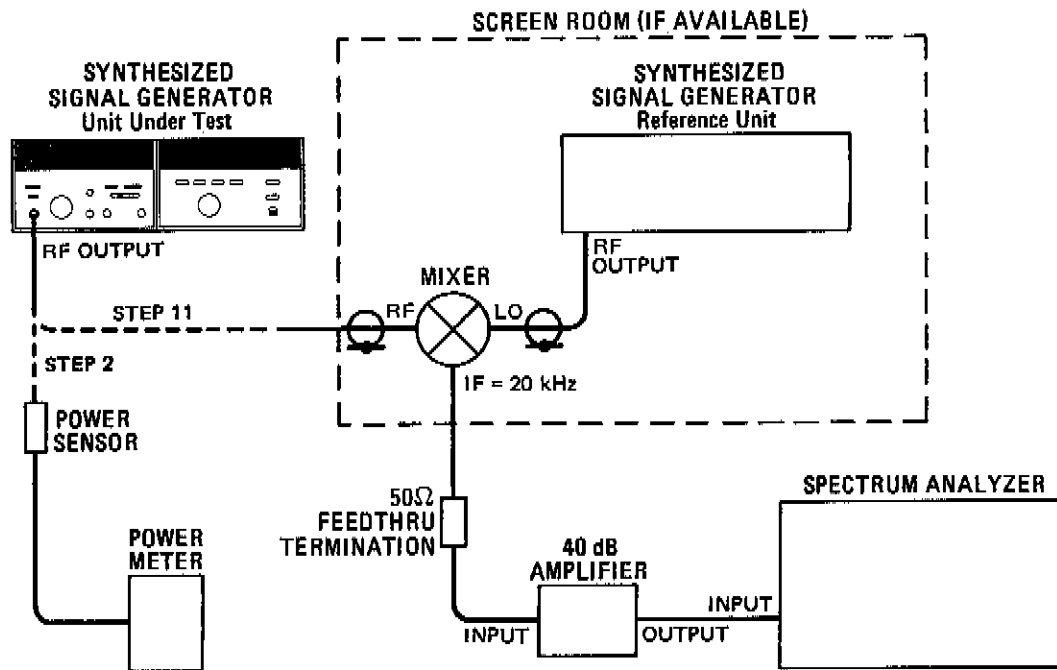

Figure 4-11. RF Output Level and Accuracy Test Setup
11. Disconnect the power meter. Connect the other equipment shown in Figure 4-11. If necessary, paint the non-movable seams of the Type-N to Sealectro connectors and semi-rigid cables with a conductive coating.1